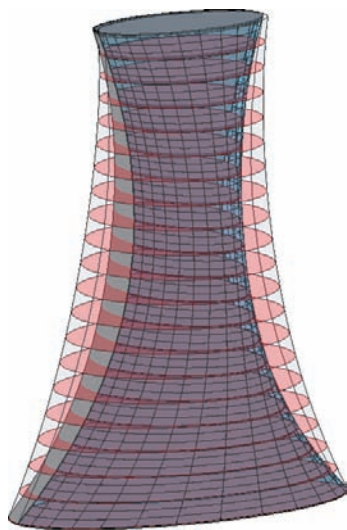

Figure 7.96
4. Open the default 3D view in the Family Editor, select Level 2, and change its elevation to 150' (50 m). When the change is complete, choose Load Into Project from the ribbon. (Remember, the save is needed only if you want to save the changes to the original family file in addition to the project file.) Select Overwrite Existing Version (see Figure 7.96).